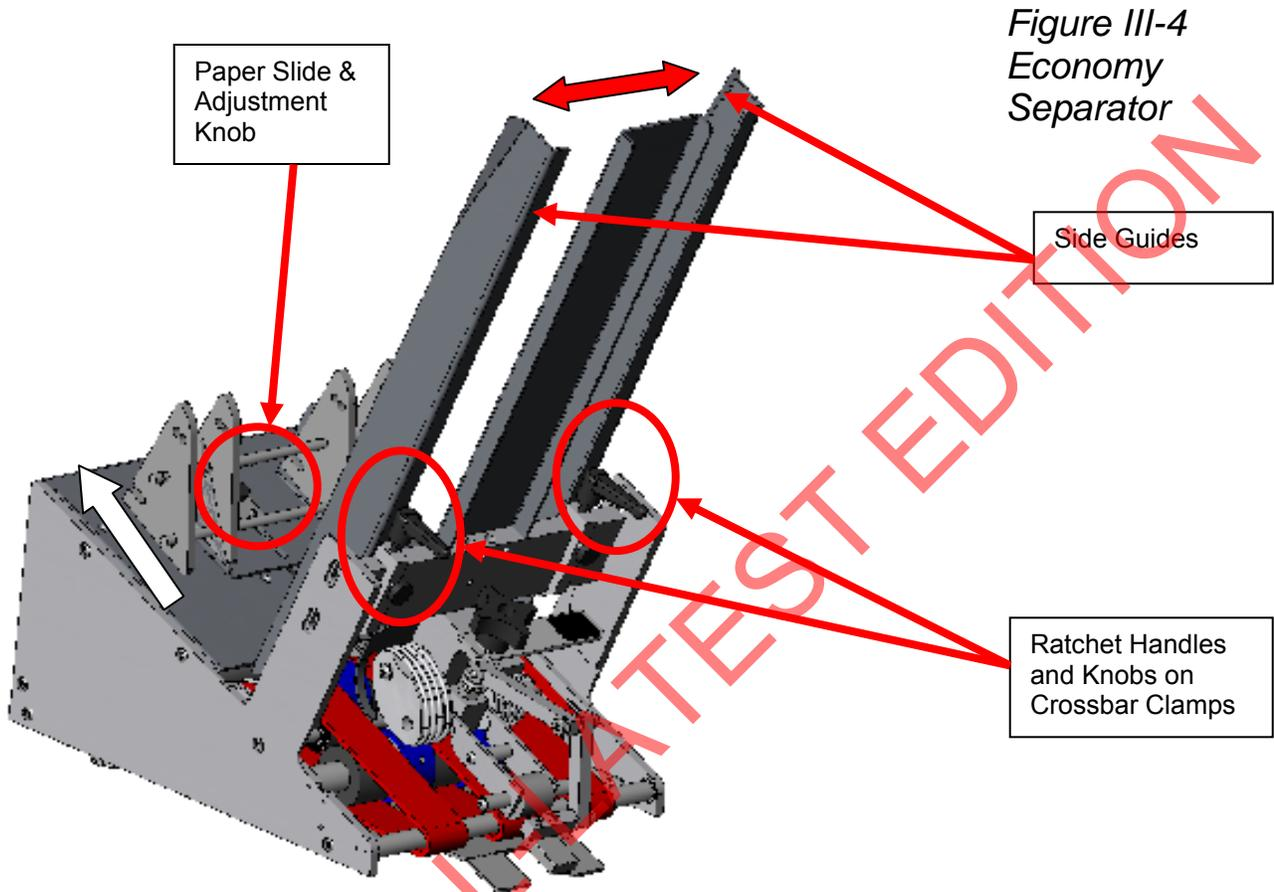

Figure III-4
- Loosen the ratchet handle and knob on each crossbar clamp to move side guides to outer edges of setup piece plus 1/16" clearance on each edge. NOTE: Inner side guides may need to be removed completely to accommodate wide pieces (see discussion with figure III-1). Loosen knob on paper slide (wedge) to move paper slide to its rearmost position (see later discussion on wedge positioning), see figure III-4.
- Slide the Paper Slide forward (see step 5, figure III-4) to support the rear edge of the stack of production pieces.
- Adjust the side guides to form a slight funnel effect (top is wider than bottom) and tighten the ratchet handles and knobs on crossbar clamps to hold the side guides in position, see figure III-4.